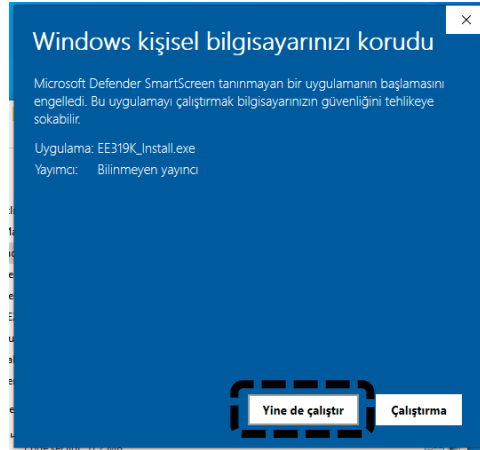

Figure A2: MS Smart Screen warning - 2
- Then, click **Still run (Yinede de Çalıştır)** as shown in Figure A2.